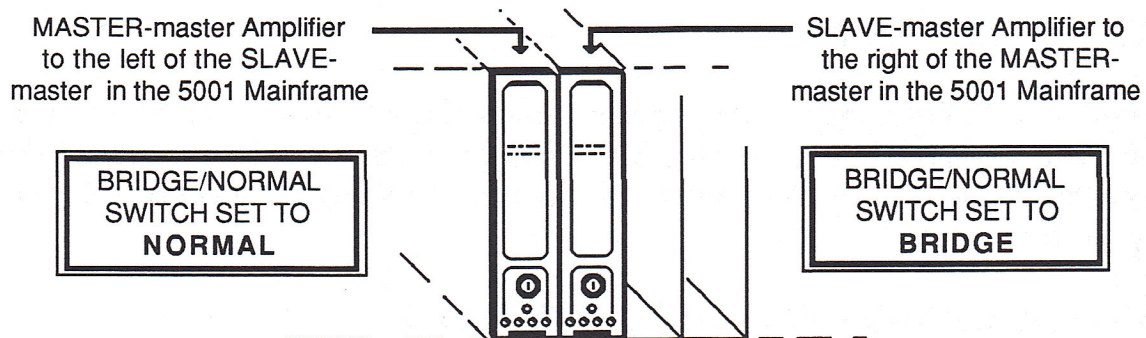

Figure 5
4. Connect the load across the two plus (+) terminals of the two amplifiers. **Do not** connect anything to the two minus (-) terminals. Figures 5 and 6 below detail these steps: